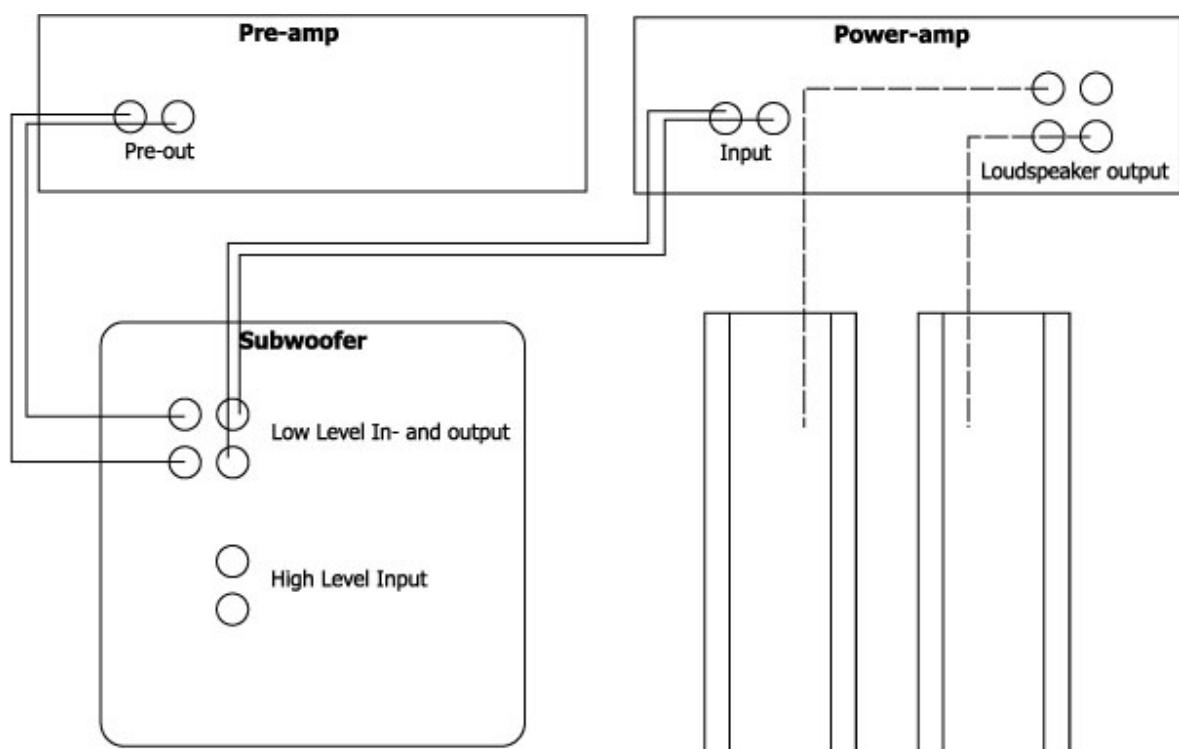

Figure 3
**(Figure 3) If you use a separate pre amplifier/power amplifier combo for stereo, follow these instructions:**